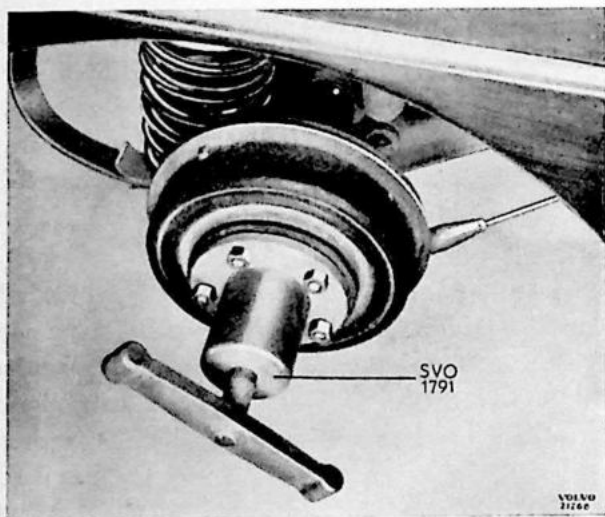
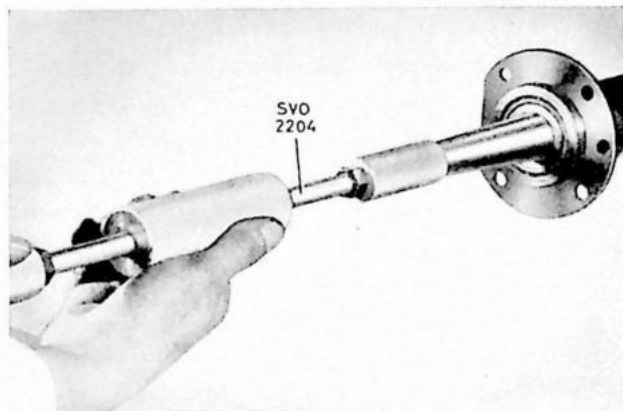

Fig. 1. Removing wheel hub.
Fig. 2. Removing drive shaft.
1. Remove the wheel and pull off the hub, see fig. 1. Use puller SVO 1446 for hubs with four bolts and SVO 1791 for hubs with five bolts. Remove the brake backing plate after having placed a wooden block under the brake pedal and removed the brake pipe lines from the backing plate.
2. Pull out the drive shaft, see fig. 2. Use puller SVO 2204 (SVO 1804 can be used on type I rear axles).
1. Remove the wheel and pull off the wheel hub, see fig. 1. Use puller SVO 1446 for hubs with four bolts and SVO 1791 for hubs with five studs. Remove the brake backing plate after having placed a wooden block under the brake pedal and removed the brake pipe lines from the brake backing plate.
2. Pull out the drive shaft, see fig. 2. Use tool SVO 2204 (SVO 1804 can be used on type I rear axles). Check and if necessary replace the sealing ring.
2. Lift off the rear wheels and unscrew the rear axle nuts (2).
3. Pull off the rear wheel hubs (6) with drums. Use puller SVO 1446 for hubs with four studs and SVO 1791 for hubs with five studs, see fig. 1. (Handbrake released, brake shoes adjusted down if necessary).
5. Unscrew the four bolts (46) which hold the brake backing plates and remove these. Ensure that no shims (47) are lost or damaged.
6. Pull out the drive shafts (11) with tool SVO 2204 (SVO 1804 can be used), see fig. 2.
7. Disconnect the propeller shafts from the pinion flange (21).
8. Unscrew the bolts (13) which hold the rear axle housing (14) and remove same.